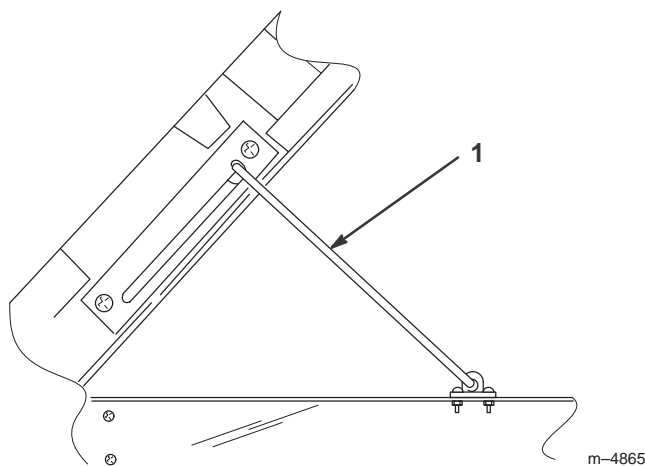

Figure 20
3. Raise the bed to its full height; then lower it slightly to engage the prop rod (Fig. 20).